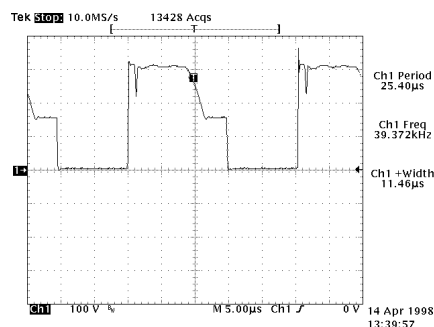

fig. 18
- on the oscilloscope check for a waveform as in fig. 18.